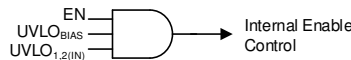

图 42. Simplified Turnon Control
Controlling when a single power supply turns on can be difficult in a power distribution network (PDN) because of the high power levels inherent in a PDN, and the variations between all of the supplies. As shown in 图 42 and 表 2, the LDO turnon and turnoff time is set by the enable circuit (EN) and undervoltage lockout circuits ($UVLO_{1,2(IN)}$ and $UVLO_{BIAS}$).